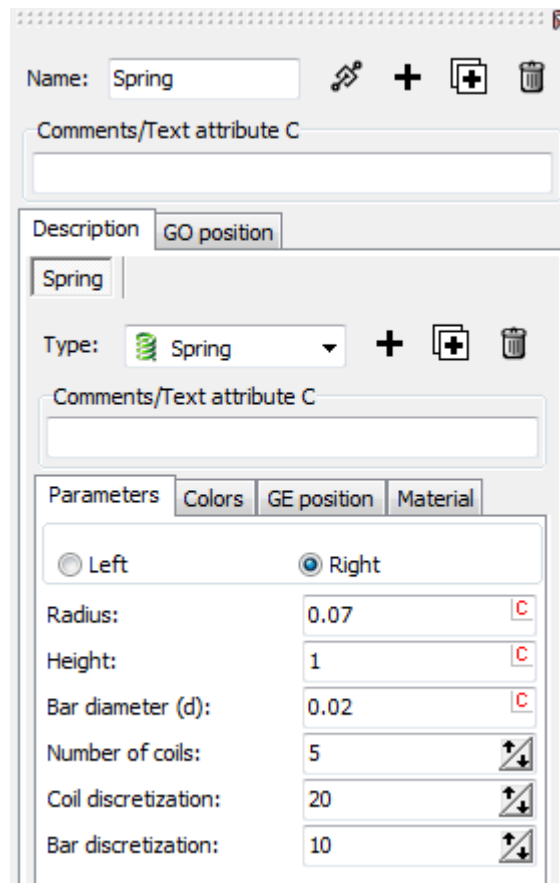

Figure 2.4. Creating the **Spring** graphical object
4. Set **Spring** parameters as it is shown in Figure 2.4.